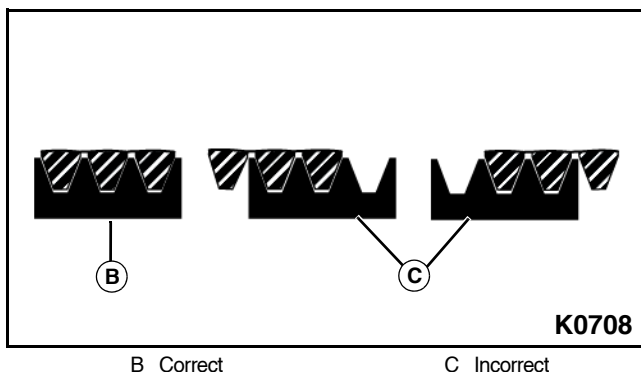

Figure 5-19
3. Place the new drive belt on the pulleys. Make sure that the belt is properly aligned with the grooves on each pulley. **See Figure 5-19.**